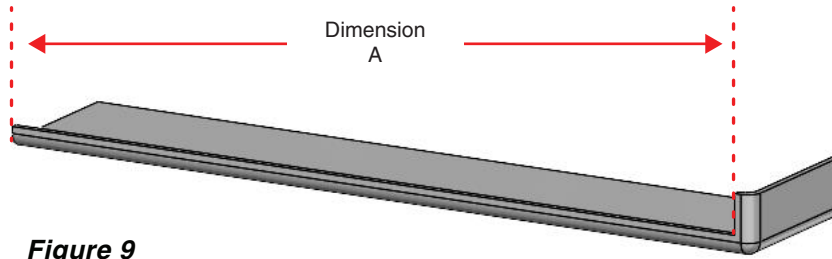

**Figure 7**
- 5 Place a piece of Luan (or other shim material) as shown to bridge the gap between existing drywall and the shower nailing flange. This is only necessary for pieces A and E. (Fig. 7)